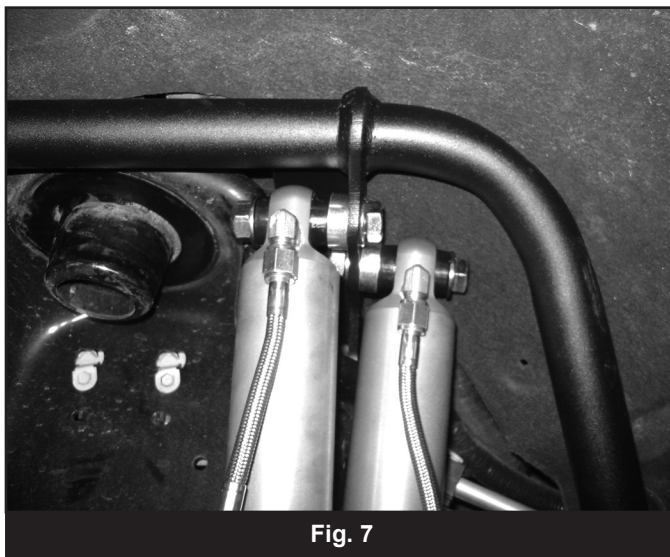

Fig. 7
16. Install shocks with 9/16" x 3" bolts, washers, spacer washer, and nuts as shown. The spacer washer goes directly against the shock hoop. Tighten hardware to 65 ft-lbs.(Fig 7, 8)